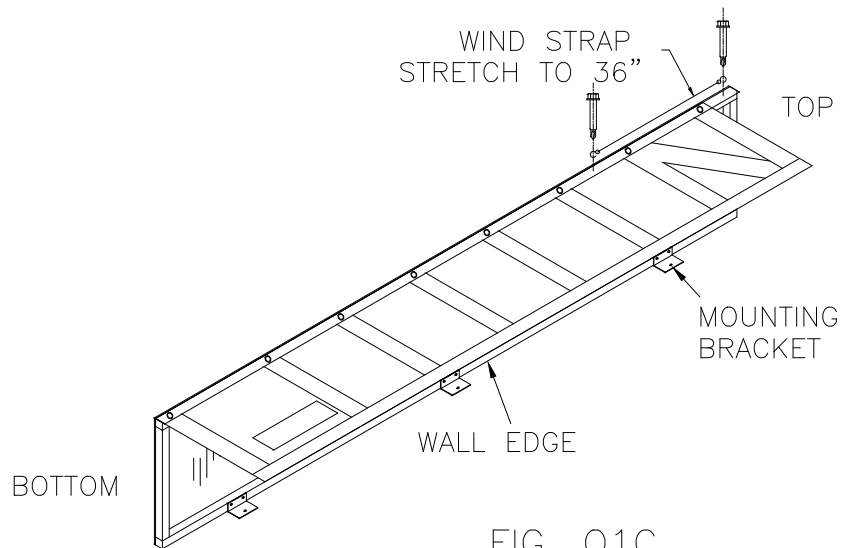

FIG. O1C
- a. **Place** Wind Strap "S" hook at hole at top of Vertical Frame (Figure O1c).